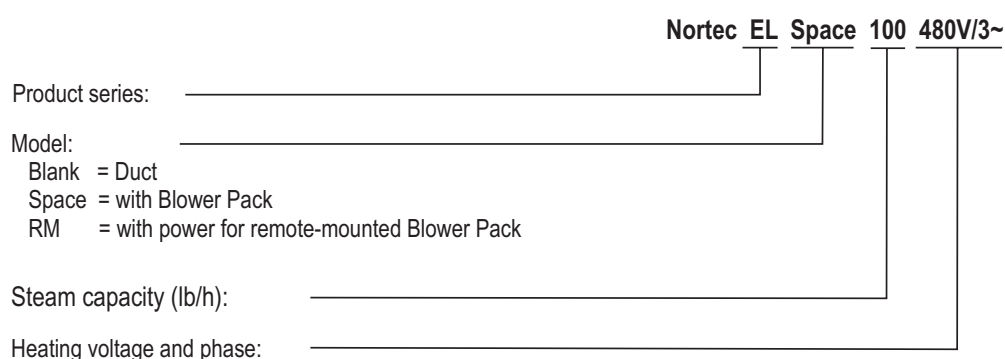
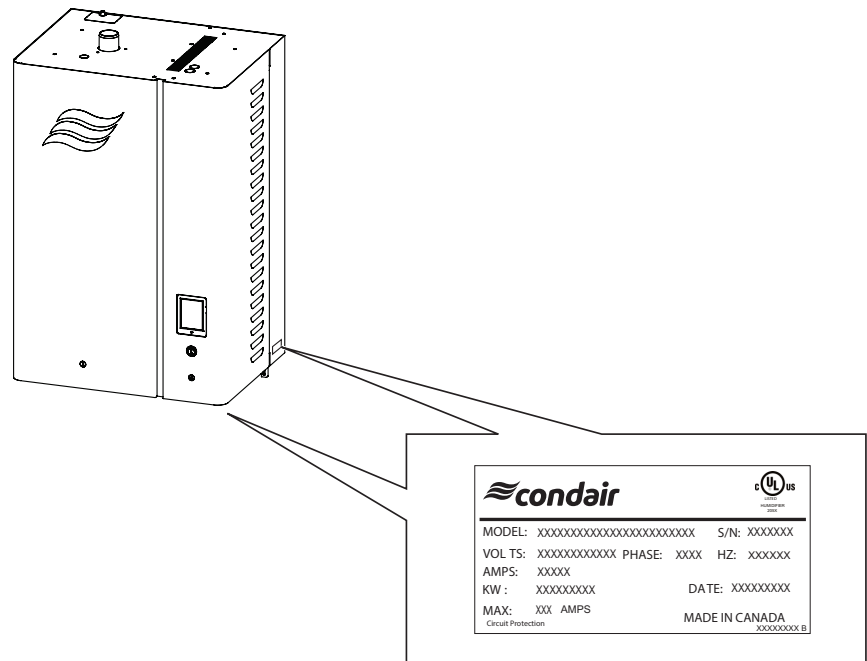

Figure 2: Model Breakdown
Figure 3: Nortec EL Steam Humidifier Specification Label
- Verify the model type on the rating label to ensure that it is suitable for your installation. Refer to Figure 3 on page 13.
The specification label on the side (and the underside) of the Nortec EL steam humidifier shows its model number, serial number and ratings – refer to Figure 3 on page 13. The breakdown of the model number is shown in Figure 2. For other details of the specification label refer to the Operation and Maintenance Manual.